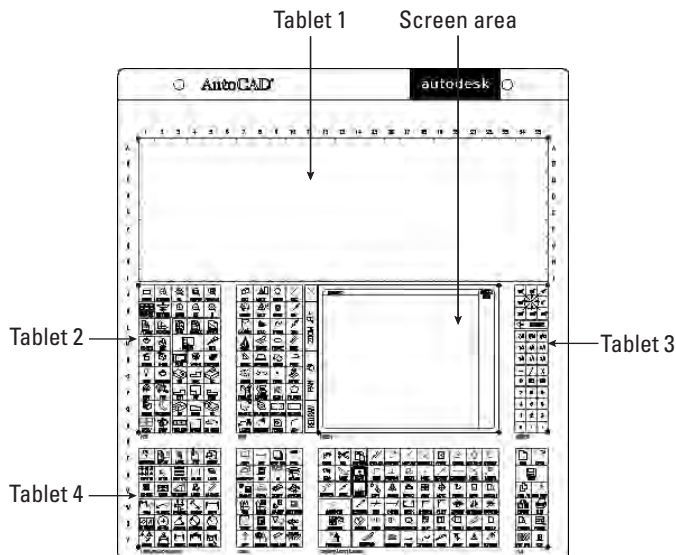

Figure 33-5: AutoCAD's standard digitizer Tablet menu and its four parts, which correspond to four sections in the menu file
***TABLET1	The Tablet menu is divided into four parts. Each part represents a section of the menu area on your digitizing tablet. The parts are divided into small squares, each of which can contain a menu item. This first part is left blank for you to configure. Figure 33-5 shows AutoCAD's tablet and its four parts.